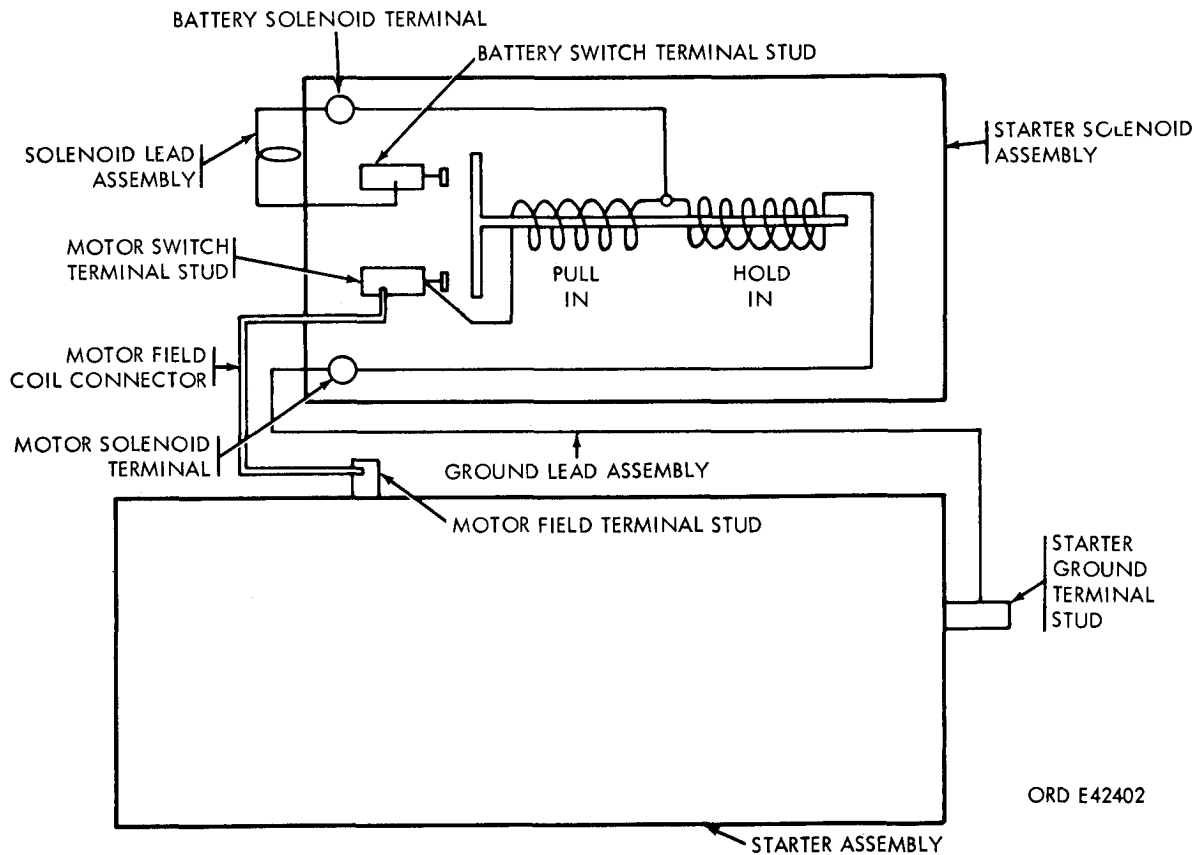

FIGURE 37. STARTER WIRING DIAGRAM - SCHEMATIC.
a. Check and adjust pinion clearance as described below. Refer to figure 37 for schematic wiring diagram of starter and solenoid connections.
- (1) Remove motor field coil connector from the motor switch terminal stud.
- (2) Remove ground lead assembly connecting motor solenoid terminal and starter ground terminal stud.